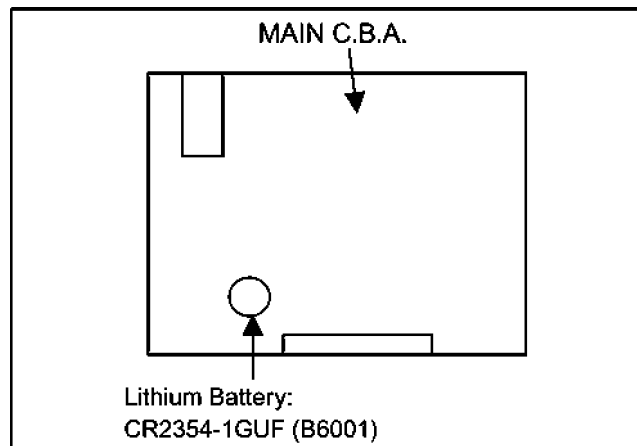

Fig.B1
2. Unsolder the Lithium Battery: B6001 "CR2354-1GUF" and then replace it into new one. (See Fig.B1)